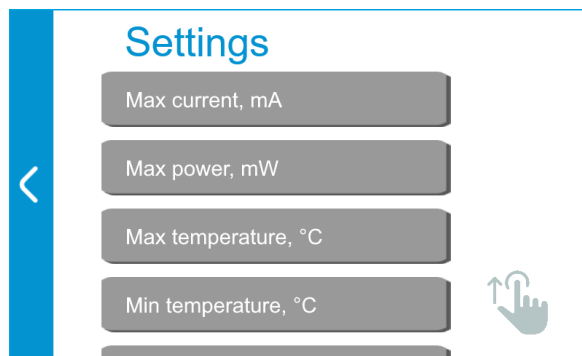

Figure 25 – Settings menu
2. In the settings menu (fig. 25) the user can set the allowed ranges for the operation temperature and current, nominal diode voltage, the values of thermistor resistance at 25 °C and beta parameter. **Note:** the correct values of thermistor resistance at 25 °C and beta parameter are necessary for proper thermal stabilization.